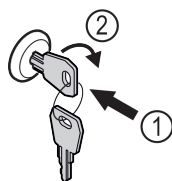

Fig. 131 Example illustration
- ▶ Insert key Fig. 131 (1).
- ▶ Turn key clockwise by 90° Fig. 131 (2).